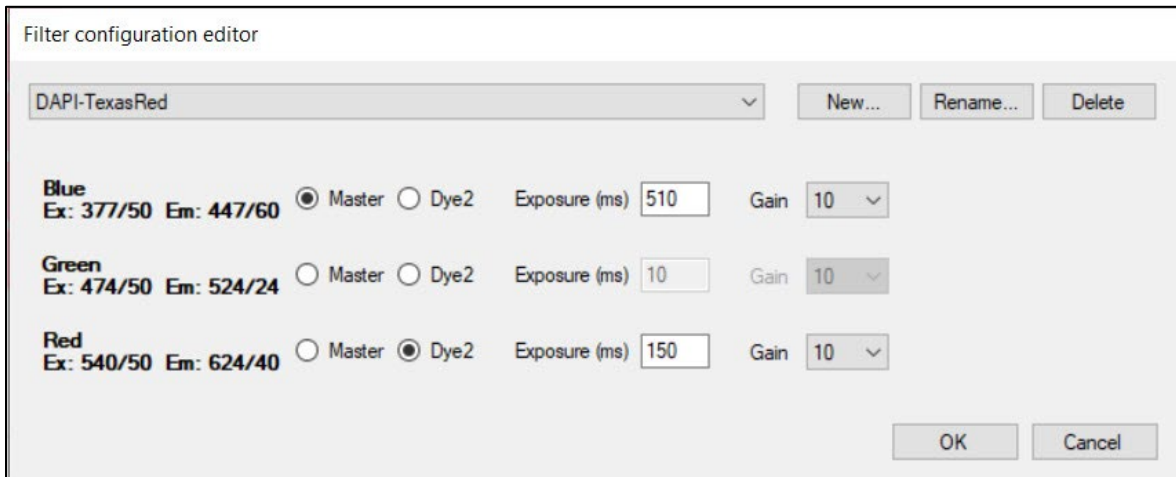

Figure 17. The *Filter configuration editor interface window*. The example shown is a filter configuration where Blue is the Master dye, and Red is Dye2.
**Utilities > Manage Filter Configurations...** provides access to an editor (Figure 17) that allows you to select any existing filter configurations for imaging via the drop-down box in the top left. It also provides the option to generate new filter configurations for cells of interest.